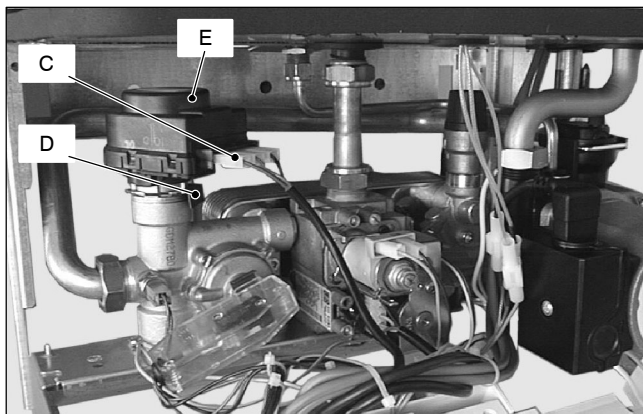

Fig. 23
- 2 Disconnect the connectors *C* (Fig. 23).